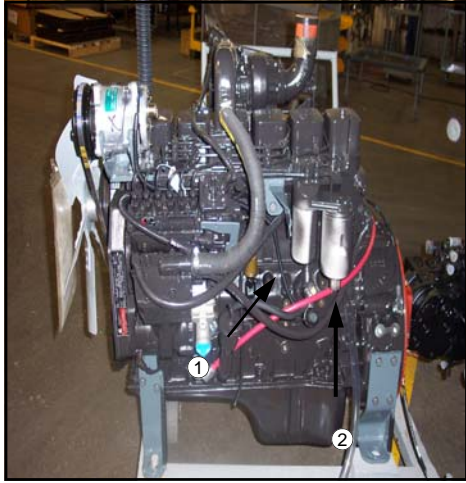

FIG 8.22
PRIMARY (WATER SEPARATOR) - (fig. 8.22, item 1) Drain water and sediment from the separator daily. Replace every 500 hours or once a year, whichever comes first.
SECONDARY - (fig. 8.22, item 2) Replace every 500 hours or once a year, whichever comes first.
IN-LINE STRAINER - (fig. 8.22, item 3) Note direction of fuel flow arrow when replacing.